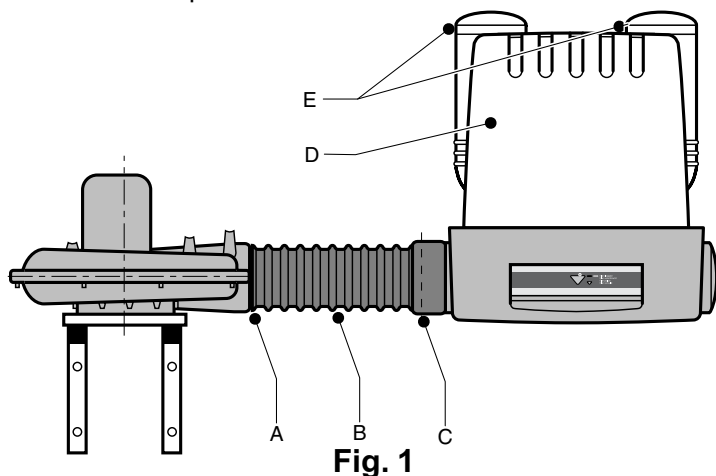

Fig. 1
- Cut the left inlet (or right, depending on which side of the fan it is to be mounted) open (Fig. 1 C). A hack-saw or multi-purpose power saw may be used.